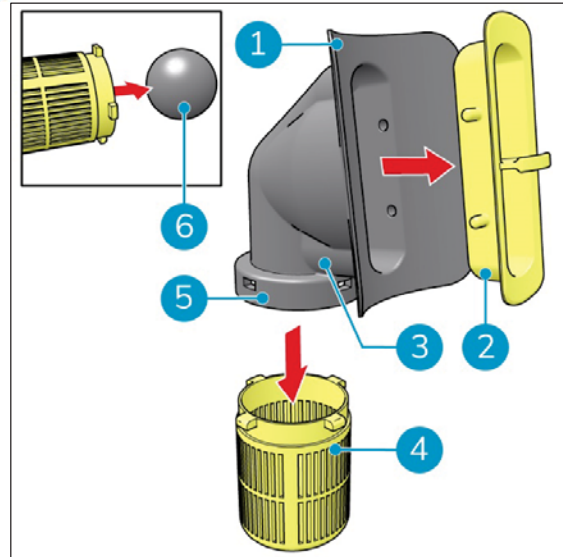

Figure 30
4. Pull the support frame (Figure 30, pos 2) out of the rubber housing (Figure 30, pos 3).
To do this, bend the rubber flaps (Figure 30, pos 1) outwards to release the 4 nocks of the support frame.
5. Pull the float ball housing (Figure 30, pos 4) out of the rubber housing. To do this, bend the rubber ring (Figure 30, pos 5) outwards to release the 4 nocks of the float ball housing.
6. The floating ball (Figure 30, pos 6) comes out.